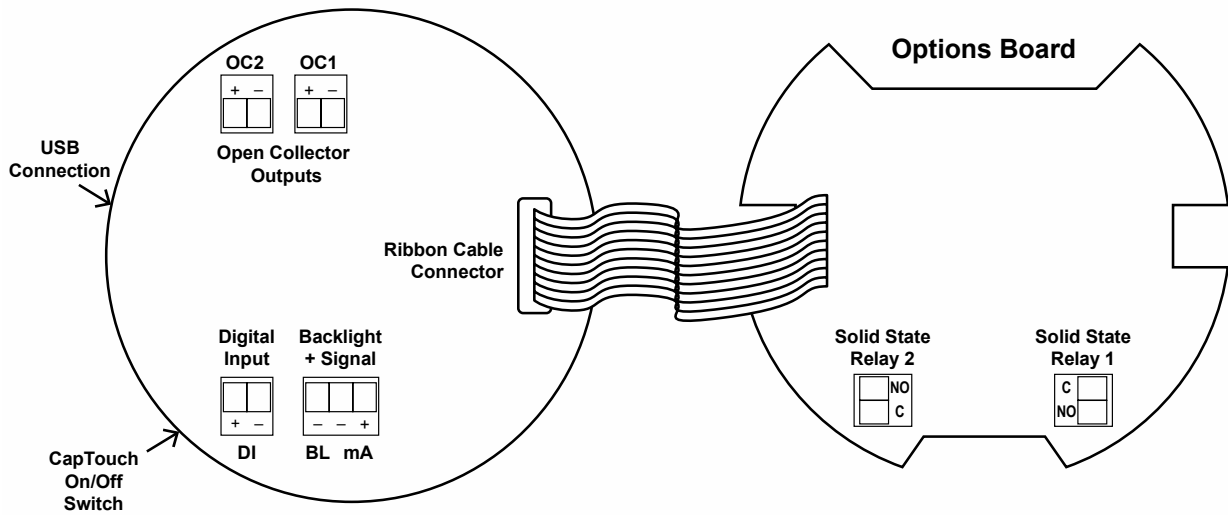

Figure 5. Connector Labeling for PD6928-HA-##-L2N
Relay connections are made to two-terminal connectors, as shown on Figure 5, page 22. Each relay's C terminal is common only to the normally open (NO) contact of the corresponding relay.